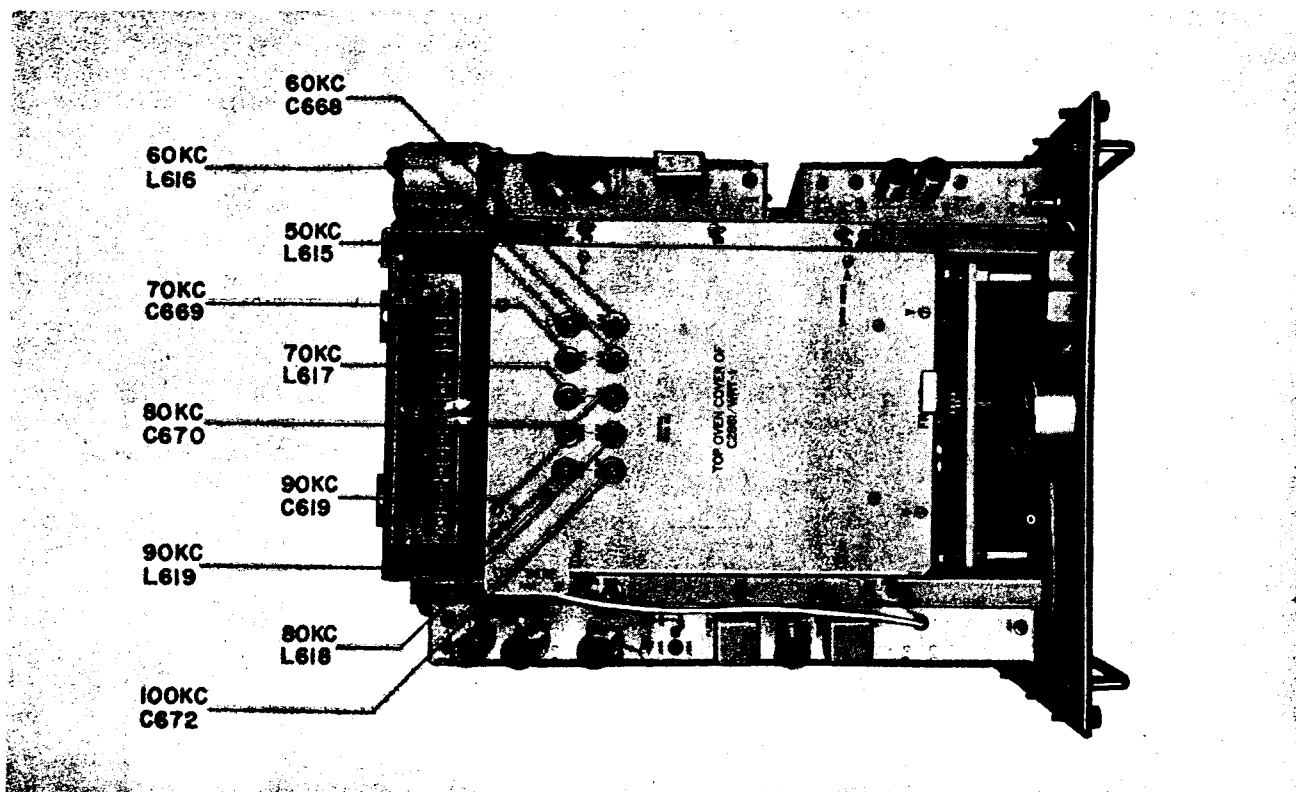

Figure 6-4. Electrical Frequency Control C-2861/WRT-1, Oven Top View, Electrical Adjustments
Step 6. With TUNING (A) and TUNING (B) controls set so that the upper counter indicates 70.010 kc., refer to figure 6-4 and adjust 70-kc coil L617 until Frequency Meter AN/TSM-9 indicates 70.010 kc.
Step 7. Rotate TUNING (B) control to 79.990 kc without changing the setting of TUNING (A) control. Note the frequency on Frequency Meter AN/TSM-9. If the frequency is not exactly 79.990 kc., refer to figure 6-4 and adjust 80-kc capacitor C670 until the same error is obtained in the opposite direction (for example if the frequency registered first by AN/TSM-9 was 80.150 kc, adjust C670 until AN/TSM-9 indicates 79.850 kc).
Step 8. Retune TUNING (B) control until the upper counter reads 70.010 kc and adjust 70-kc coil L617 until Frequency Meter AN/TSM-9 indicates 70.010 kc.
Step 12. Using a procedure similar to steps 7 through 11 refer to figure 6-4 and adjust the coils and capacitors as indicated in the following table: